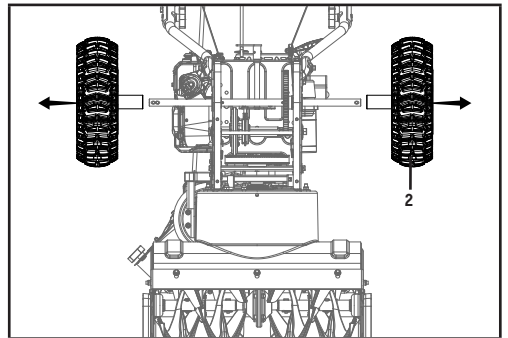

Figure 44B
3. Remove the right wheel (2) by removing the axle pin on it (Fig. 44B).